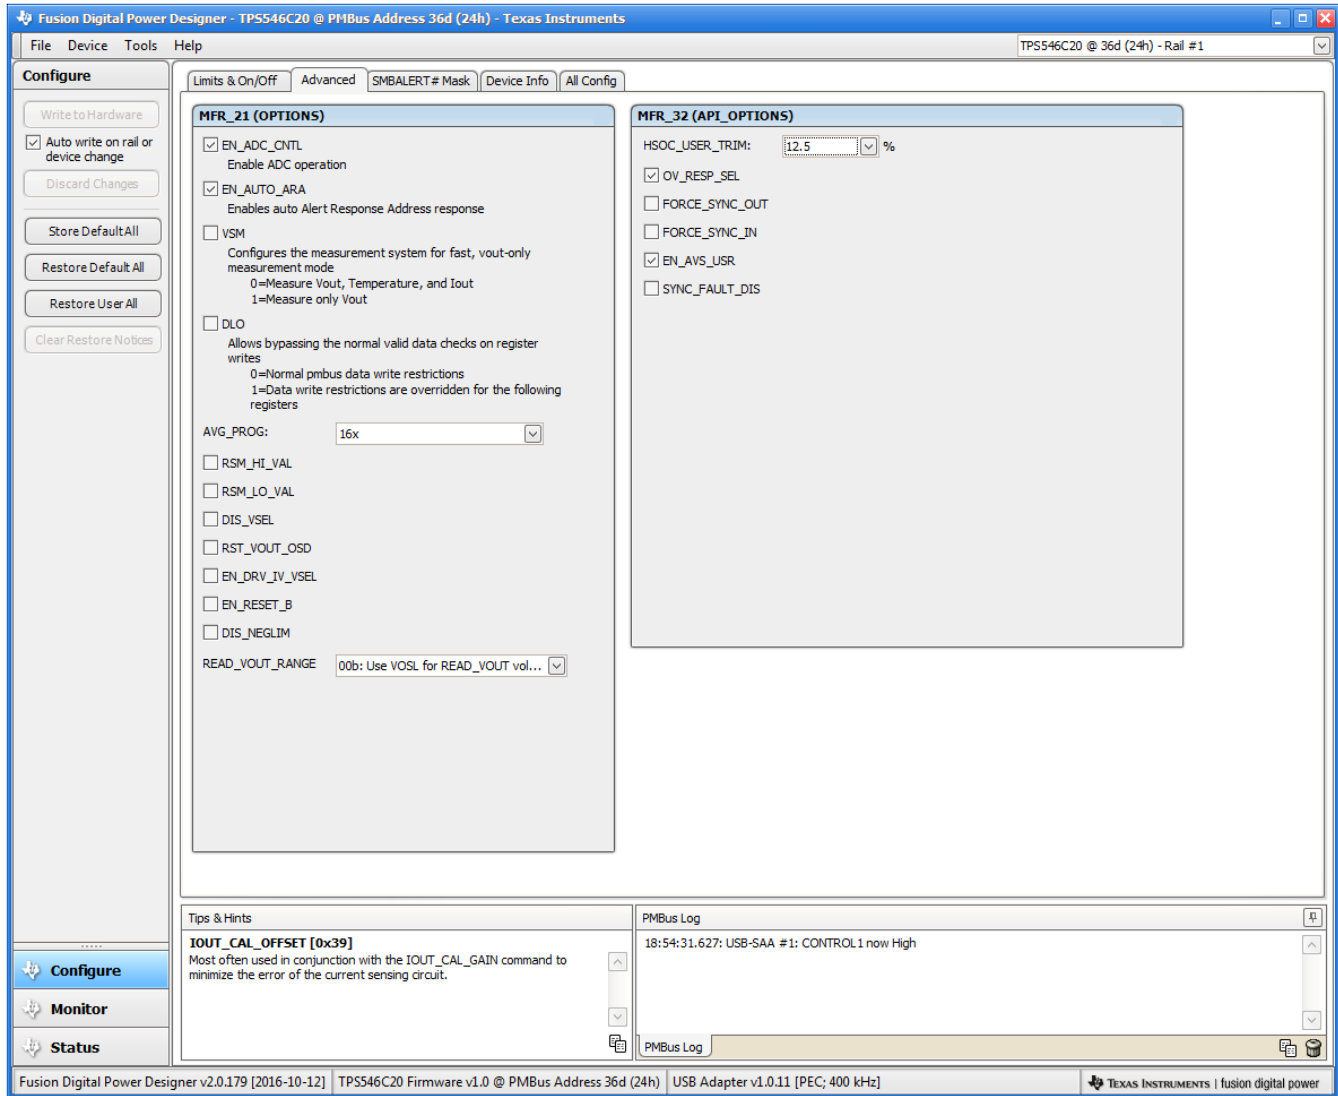

Figure 30. Configure - Advanced
For modifications on V_{ref} and Soft Start time, to make the changes effective in next power up, **DIS_VSEL** in **Advanced** tab Figure 30 should be checked and stored to non-volatile memory as well.
- Use the **Advanced** tab Figure 30 to configure: